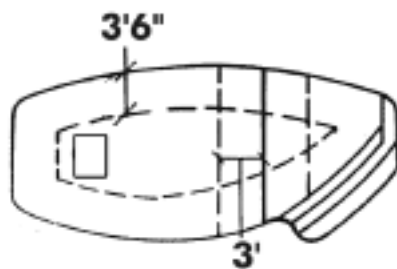

FIG. 2.1
- B.** On the deep side of the break point, draw a broken line across the pool that is parallel to and **3 ft. from the break**. (FIG. 2.1 - 2.2)
- C.** Along all sides of the pool, draw a broken line that is parallel to and 3 1/2 ft. from the **FINISHED POOL WALL**. (FIG. 2.1 -2.4)
- D.** These are the beginning points at which nozzles will be located. Major corners are located at the intersection of the broken lines that were drawn. If the pool has a break, treat the deep end and the shallow end as if they were two separate pools. (FIG. 2.1 -2.2)
- A.** As stated in step 2, major corners are located at the intersection of the broken lines. (FIG. 2.1 - 2.2)